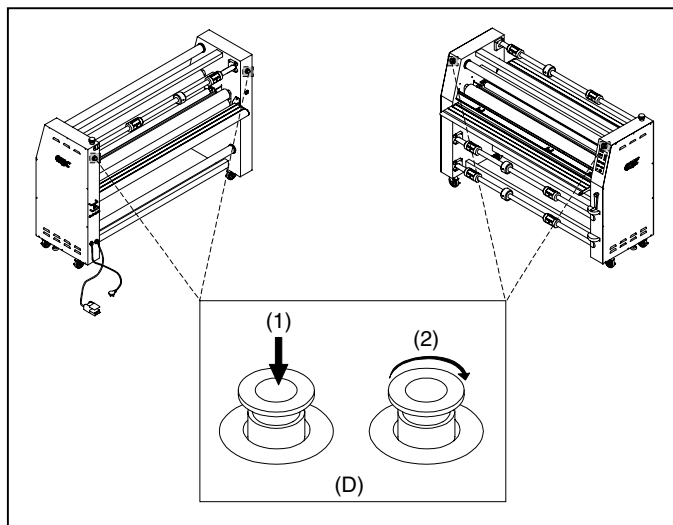

Fig. 9
D. E-STOP: Four emergency stop buttons exist on the laminator. Two located on the left and right front and two on the left and right rear of the laminator. (Figure 9)